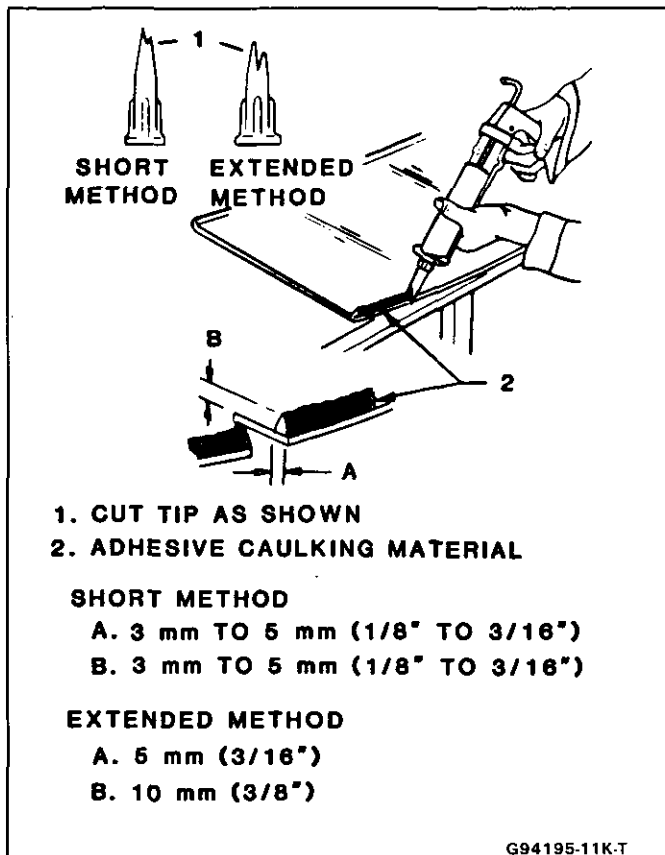

Fig. 7-Applying Adhesive Material
Prep and Sealing (Figure 7)
3. Enlarge nozzle furnished in kit as shown in (Figure 7).
7. Apply a smooth continuous bead of adhesive 10 mm (3/8") high by 5 mm (3/16") wide completely around inside edge of glass (Fig. 7). Tip bead of adhesive slightly inboard.